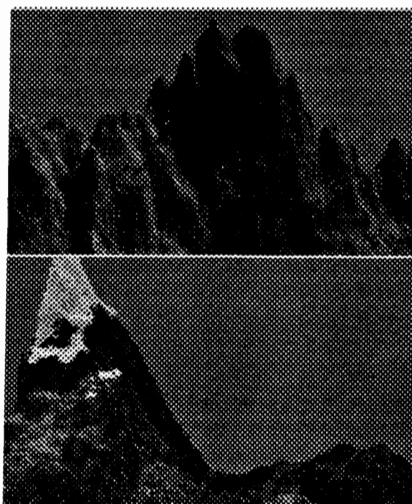

Figure 11.
3. The third method is really the most fun, as it creates unexpected results. It can also be combined with the other two to further alter the final rendering. Look at figures 11 and 12. This scenery was generated by using